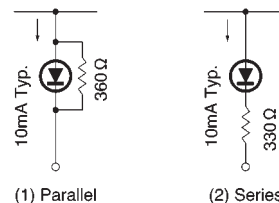

Fig. 3
To reduce the LED current, connect a resistor either in parallel (Fig. 3 (1)) or in series (Fig. 3 (2)) with the LED. If a resistor is connected in series with the LED, the LED current will change if the supply voltage fluctuates.